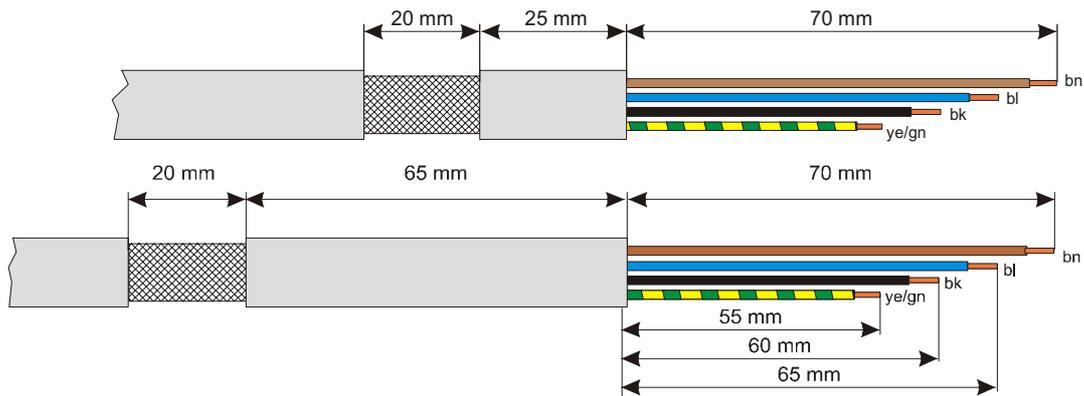

Fig. 2-6 Preparing the motor cable
2. Preparation the motor cable (fig. 2-6), an mount wire end ferrules on the device end of the motor cable..